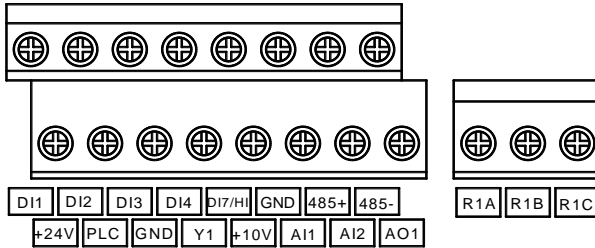
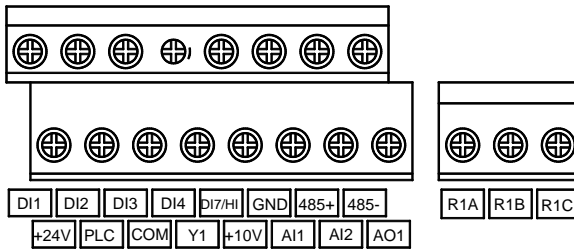
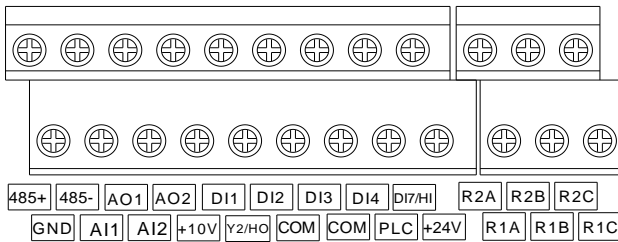

Figure 2-28a PV150A & PV150I(0.4~1.5kW) Control Circuit Terminals
Figure 2-28b PV150I(2.2~5.5kW) Control Circuit Terminals
Figure 2-28c PV500 Control Circuit Terminals
**\*Note:****A: Control circuit A (Fig2-28a)****B: Control circuit A (Fig2-28b)****C: Control circuit A (Fig2-28c)**